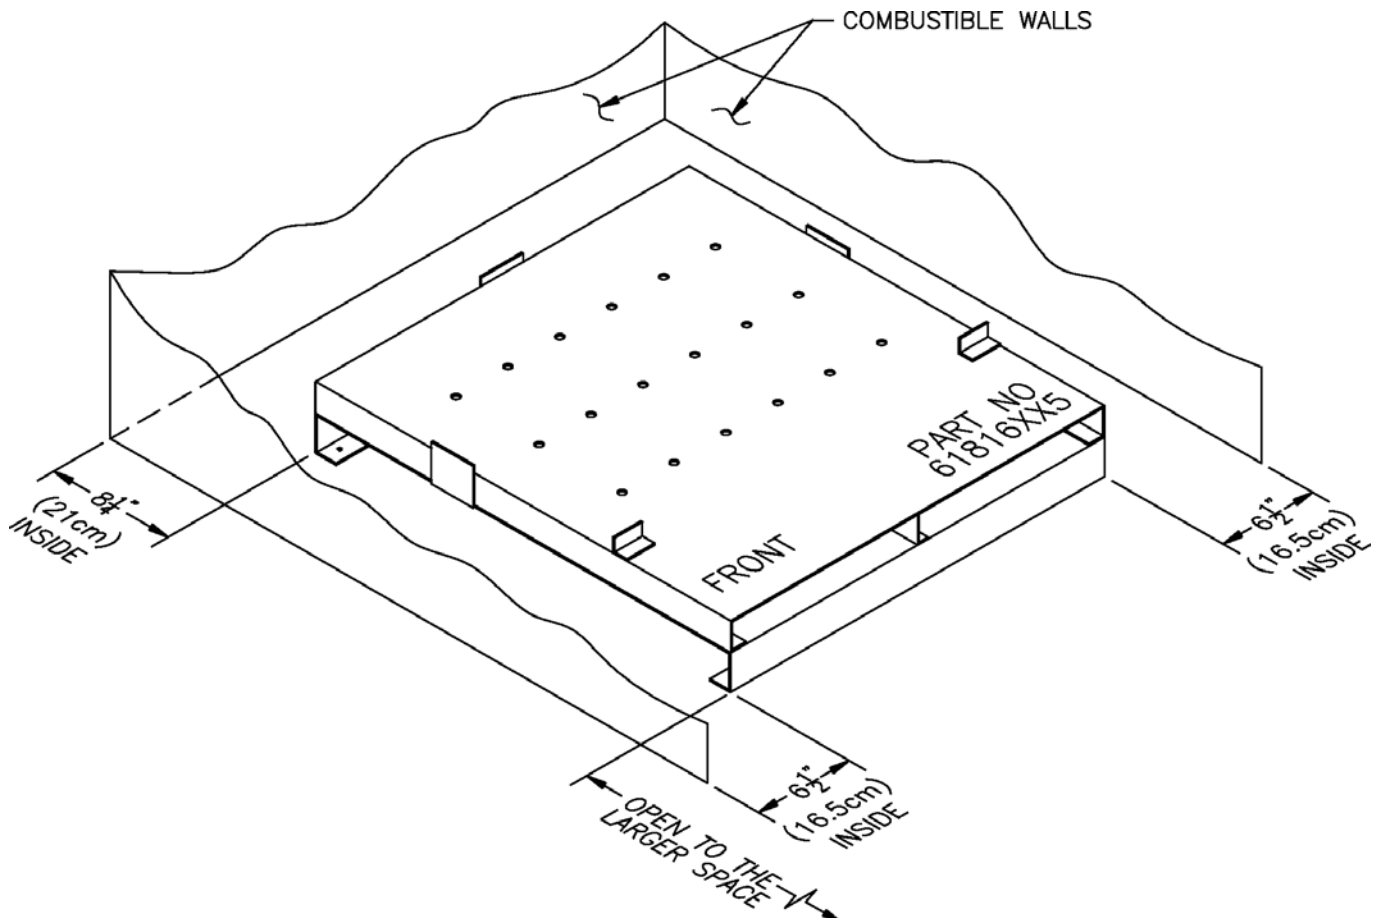

Figure 4: Installation of Special Base for Combustible Flooring
E. Install special base if installation is on combustible flooring. See Figure 4. Floor shield adds $4\frac{3}{4}$ " to boiler height.
2. Locate special base with spacing to combustible materials as shown in Figure 4.
4. Do not enclose boiler (including special base) on all four sides. Models 807HE may be enclosed on three sides (alcove) while maintaining clearances shown in Figure 4.